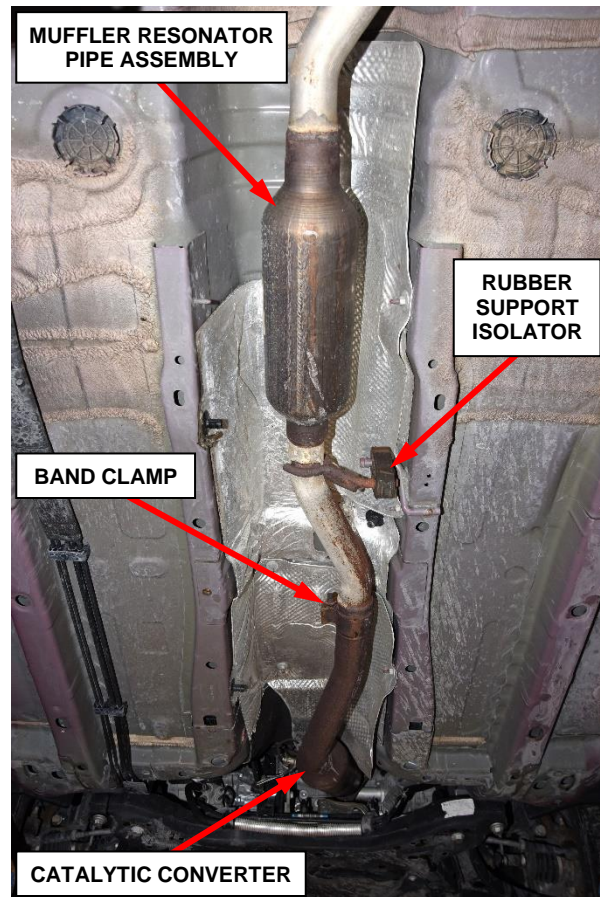

Figure 9 – Exhaust System (Photo MK/PM Shown JC/JS Similar)
11. Apply penetrating oil to the band clamp between the catalytic converter and the muffler resonator pipe inlet (Figure 9).
- 13. Loosen the band clamp between the catalytic converter and the muffler resonator pipe inlet (Figure 9).
- 15. Disconnect the rubber support isolators from the muffler resonator pipe assembly supports (Figures 9 and 10).
25. Install the rubber support isolators to the muffler resonator pipe supports (Figures 9 and 10).
27. Tighten the muffler resonator pipe assembly band clamp to 54 N·m (40 ft. lbs.) (Figure 9).